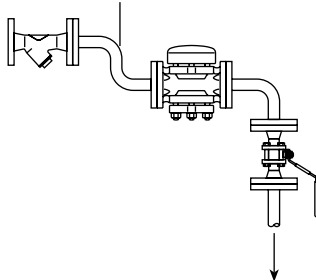

Fig. 3 Typical installation
- 3.4** The preferred installation is in a horizontal pipe with the insulating cover uppermost (see Figure 3). The trap will operate in any position, but the service life may be affected.